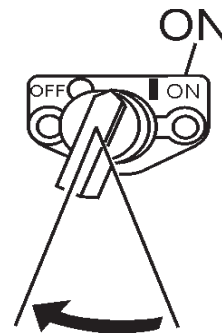

Figure 15. Engine ON/OFF Switch (ON Position)
5. Place the **engine ON/OFF switch** (Figure 15) in the "ON" position.